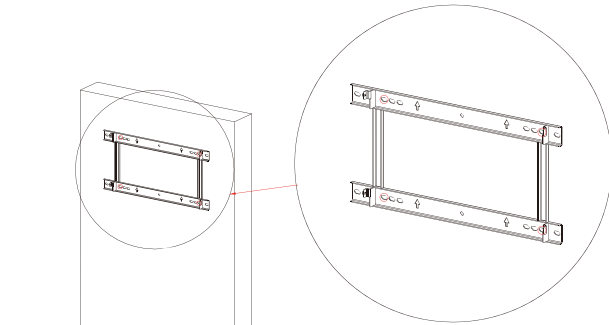

Figure 2.10 Fix the Wall Bracket
**Step 5** Use a SW13 sleeve or other tools for M8 flange to lock the expansion screws and fix the wall bracket, as shown in Figure 2.10.